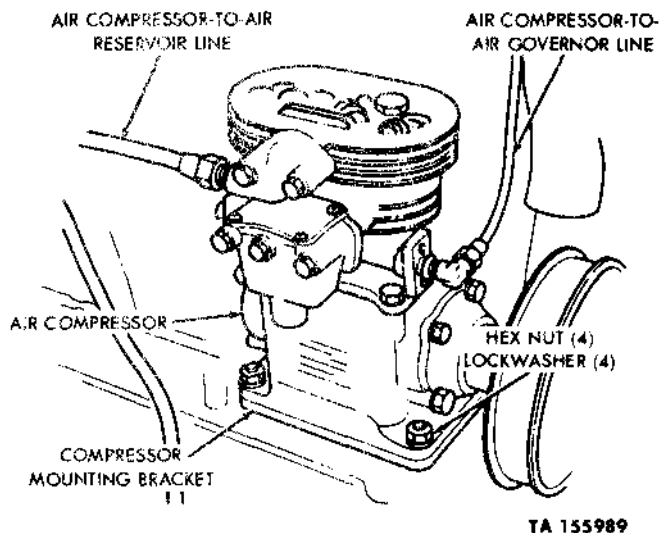

Figure 2-192. Air compressor (air cooled)—gasoline models.
(a) Unscrew connector securing air compressor-to-air reservoir line (fig. 2-192) to top rear of air compressor cylinder head, and remove line from head.
(b) Unscrew connector securing air-compressor-to-governor lines (fig. 2-192) to top front of air compressor cylinder head, and remove line from head.
(c) Remove four hexagon nuts and lockwashers (fig. 2-192) from studs securing air compressor to compressor mounting bracket at lower right side of engine crankcase, and remove compressor drive belt from the pulley.
- (a) Clean gasket surfaces on compressor mounting bracket (fig. 2-192) and air compressor crankcase, and install new gasket on mounting bracket.
- (b) Position air compressor on mounting bracket, and loosely install four lockwashers and nuts (fig. 2-192) on the mounting bracket studs.
- (d) Position air compressor-to-air reservoir and the air compressor-to-governor lines at the cylinder head, and tighten connections (fig. 2-192).